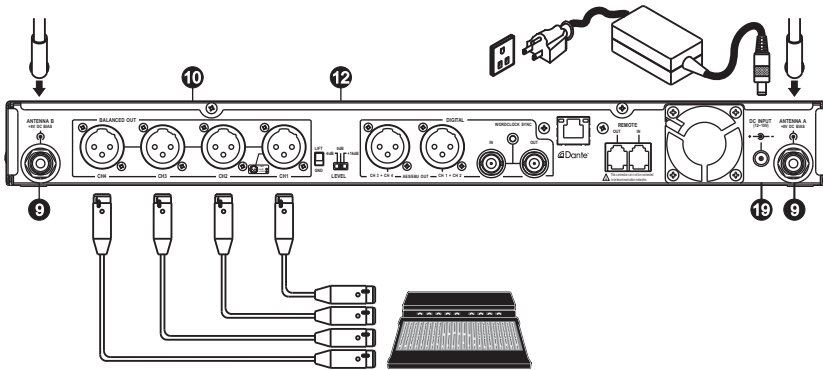

Fig. 2
II. Receiver Installation, Fig. 2
1. Connect an antenna to each antenna connector ⑨ on the rear panel.
2. Power Connection: Connect the power supply to the DC input jack ⑲ and plug the other end into an AC power source.
- (A) Each channel signal output can be connected to the mixer or amplifier's MIC IN jack by using a cable with balanced XLR connector, Fig. 2.